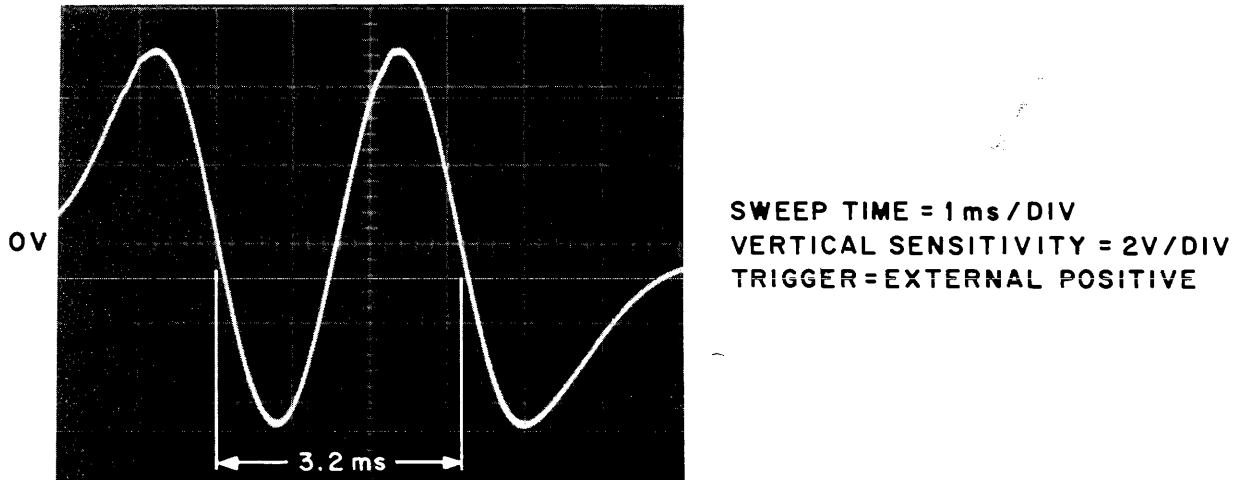

Figure 5-8 2-Cylinder Seek Waveform
18. Monitor pin A5-M1 and adjust potentiometer VA until the center cycle of the displayed sine wave (Figure 5-8) is 3.2 ms.